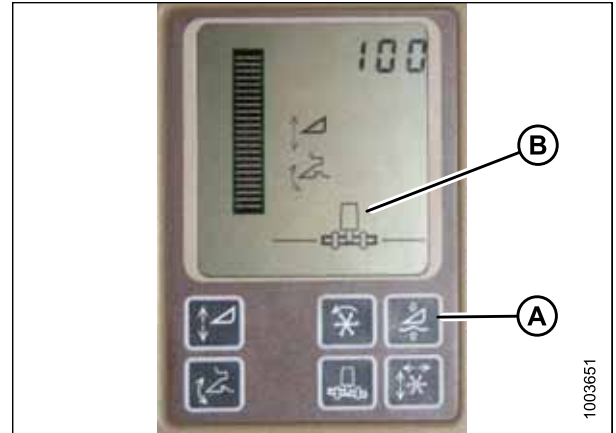

Figure 3.302: John Deere Combine Display
Do **NOT** use the active header float function (A) in combination with the MacDon auto header height control (AHHC)—the two systems will counteract one another. The header symbol (B) on the display should **NOT** have a wavy line under it and should appear exactly as shown on the Active Header Control Display in Figure 3.302, page 191.